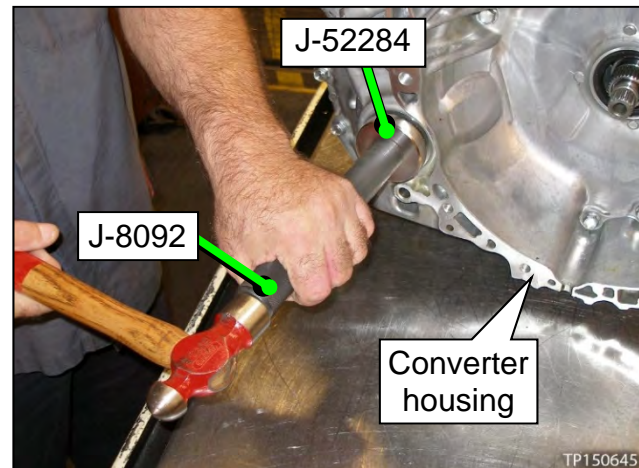

Figure 158
**NO:** Install the torque converter housing side axle seal (Figure 158).